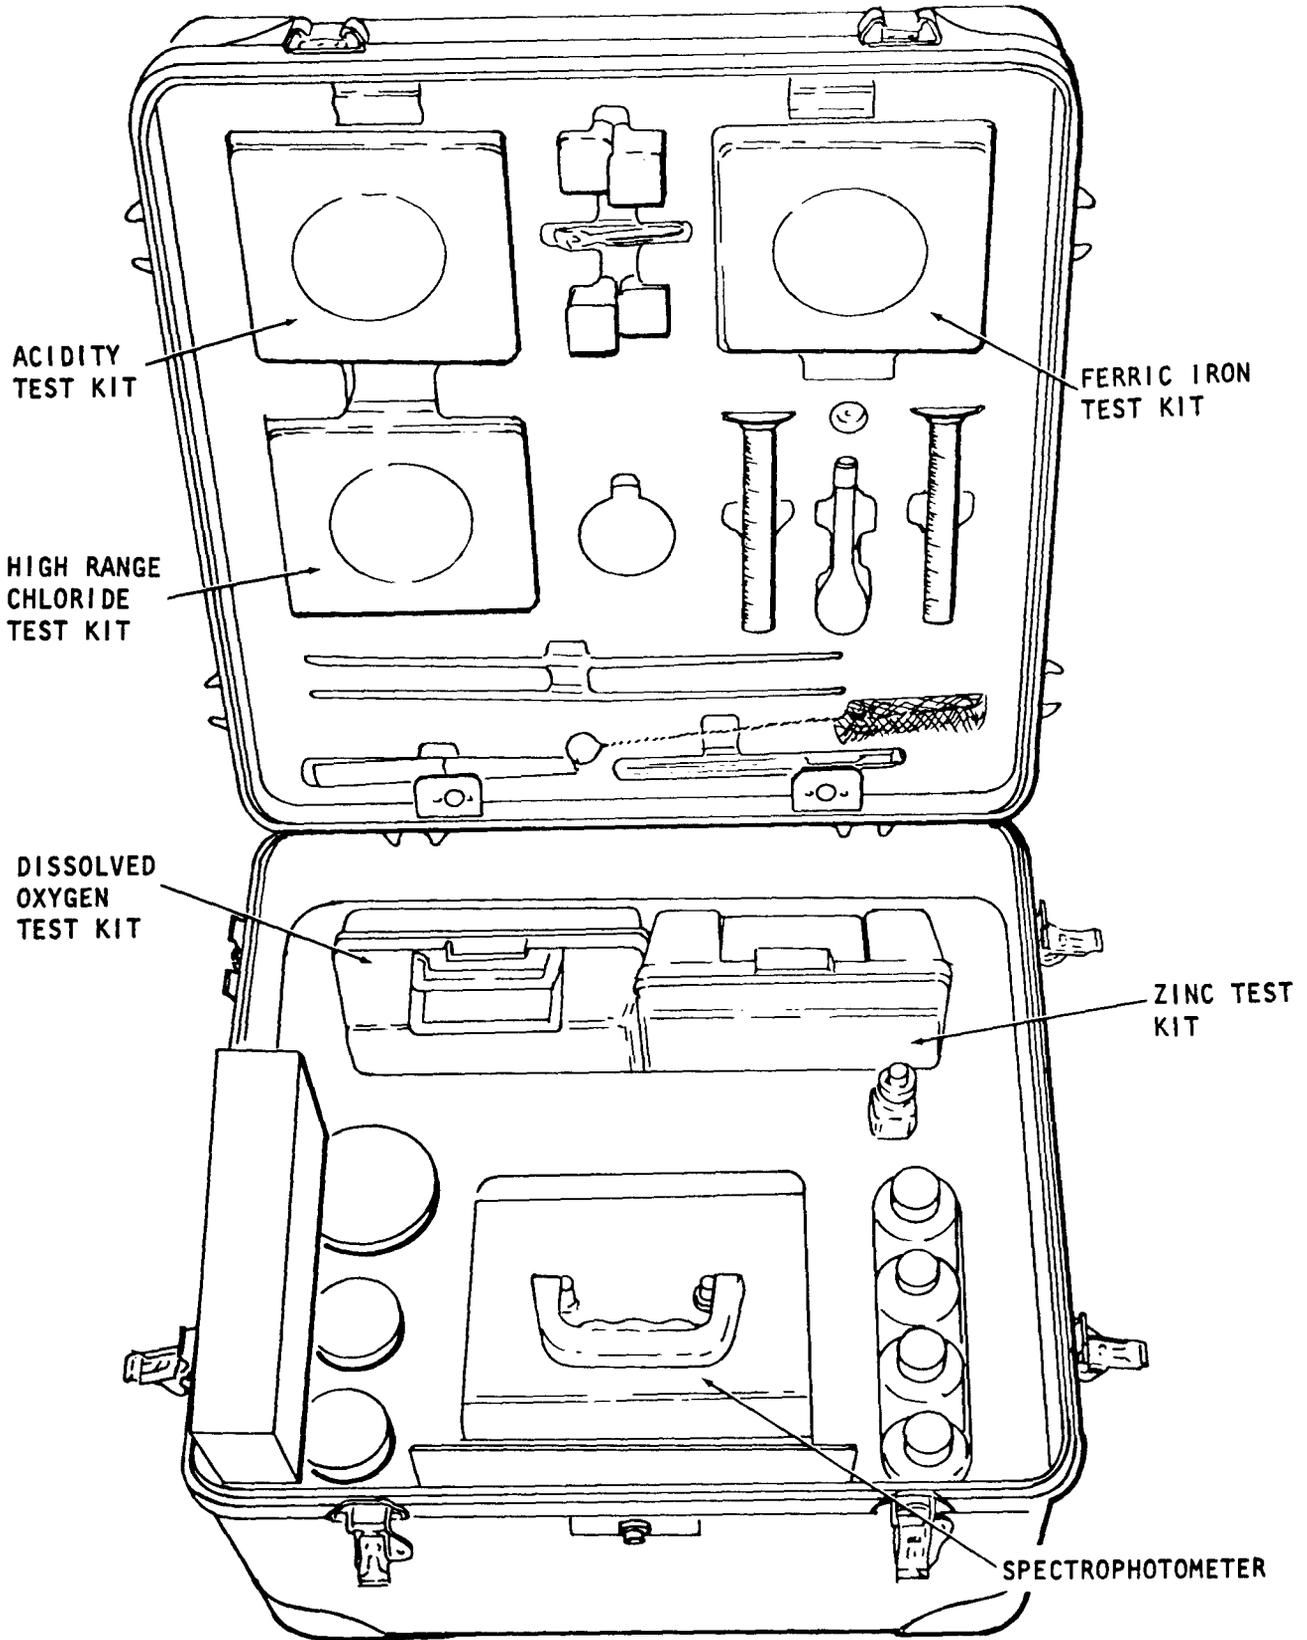
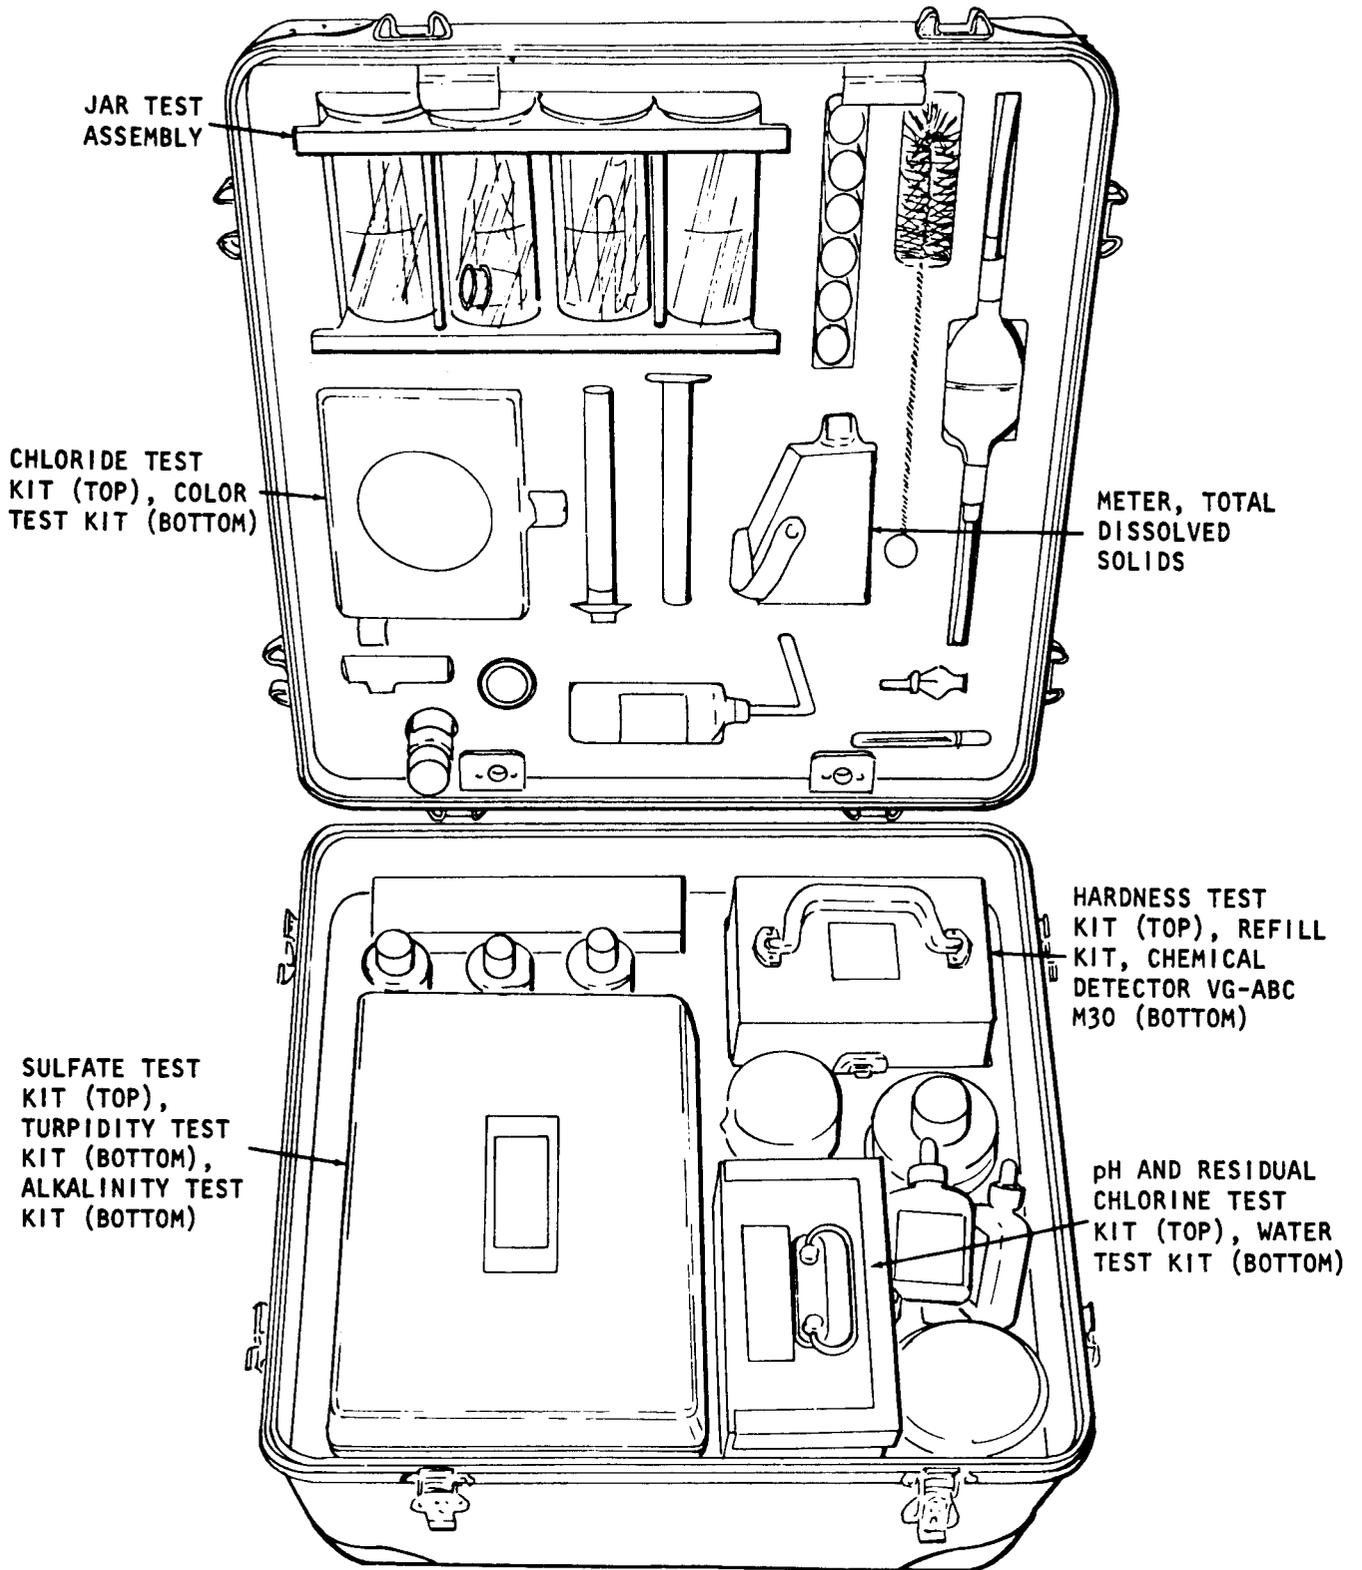

Figure 1-1. WQAS - Preventive Medicine
Figure 1-2. WQAS - Engineer
a. General. This manual describes two sets; the Water Quality Analysis Set (WOAS) - Preventive Medicine (fig. 1-1) and the Water Quality Analysis Set (WOAS) - Engineer (fig. 1-2). Each unit is designed for field use.
- (1) Acidity test kit.
- (2) High range chloride test kit.
- (3) Iron test kit.
- (4) Dissolved oxygen test kit.